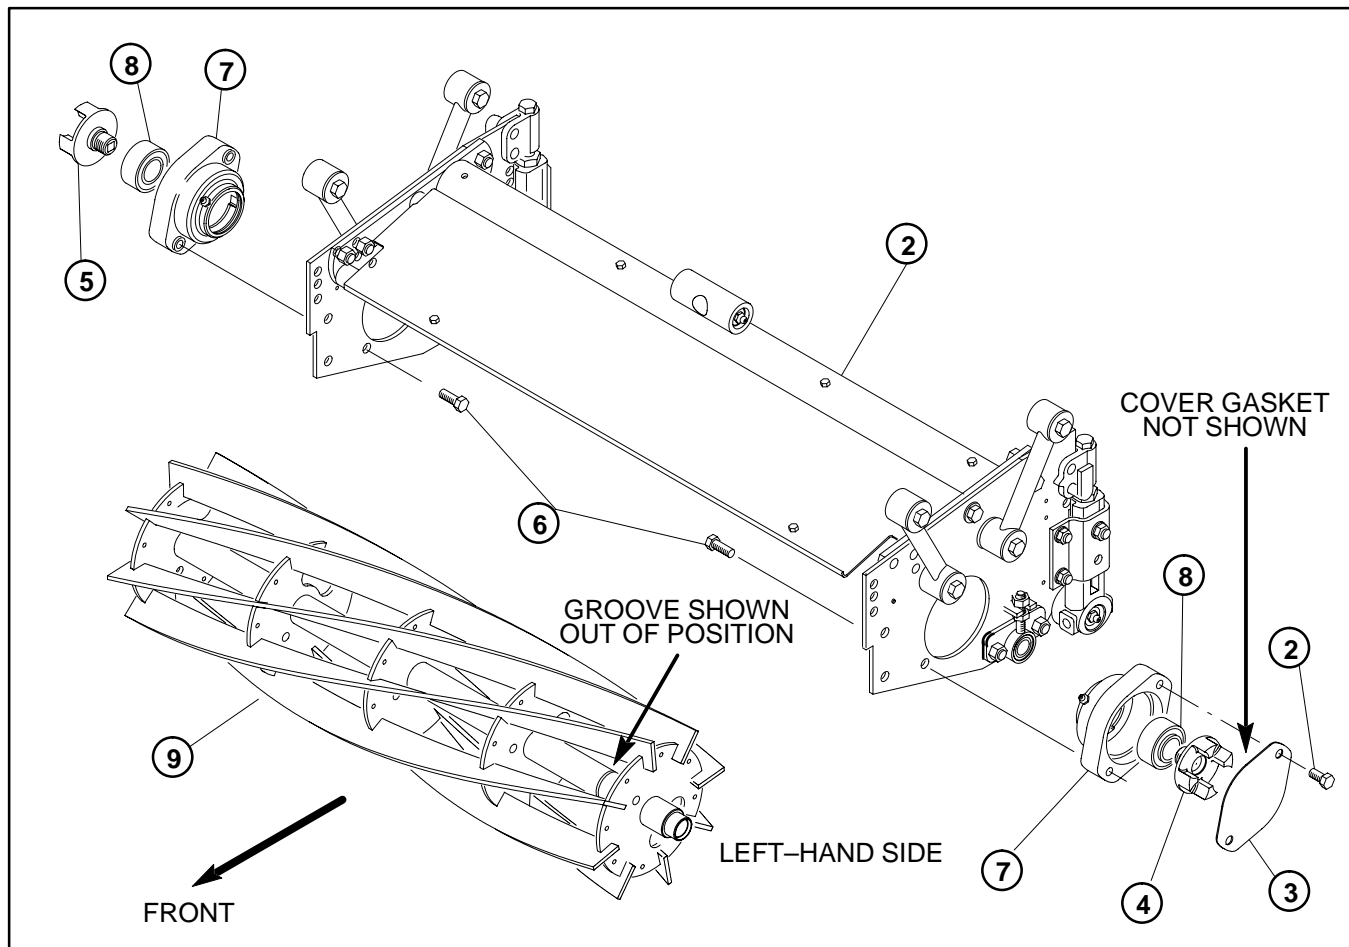

Figure 26
3. Align reel inside the cutting unit with the bearing housing holes. The reel must be positioned so that the grooved end of the shaft (left-hand threads) is on the left side of the cutting unit (Fig. 26).